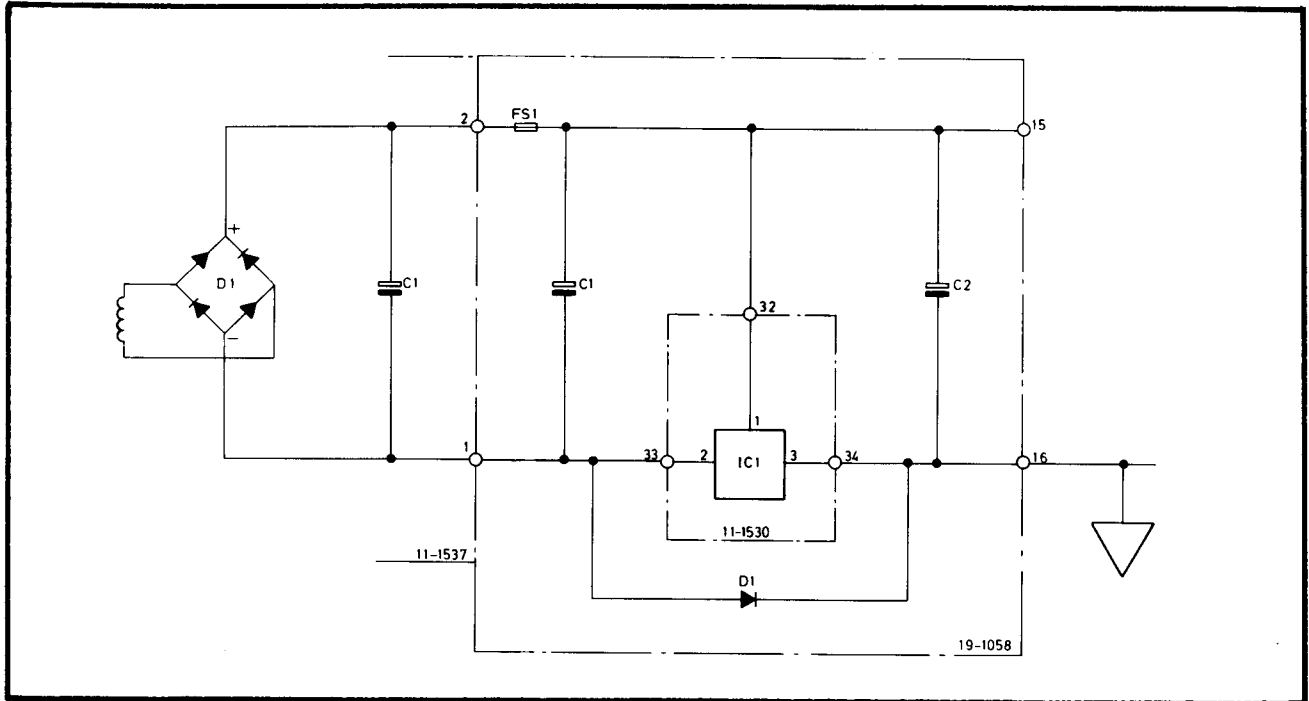

Fig. 6.12 The +18 V Power Supply
6.5.13.3.1 The +18 V supply is typical of the supplies having integrated circuit regulators. The circuit diagram is given in Fig. 6.12.